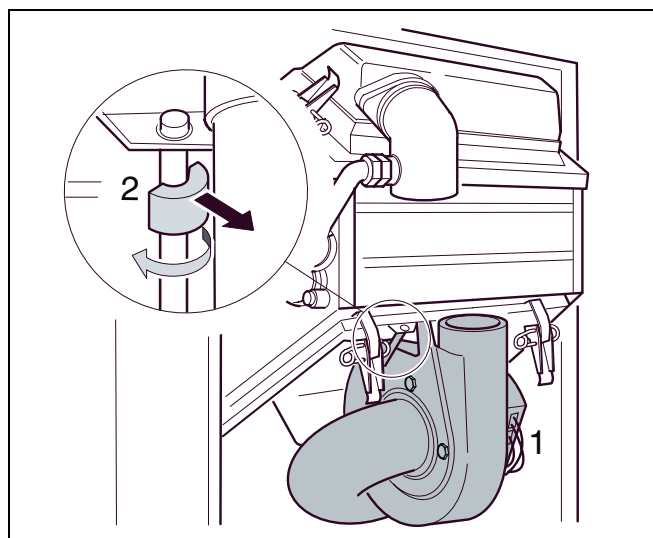

fig. 45 Removing the fan
- Pull off the plug of the fan (fig. 45, item 1).
- Turn and pull out the safety retainer of the fan (fig. 45, item 2).